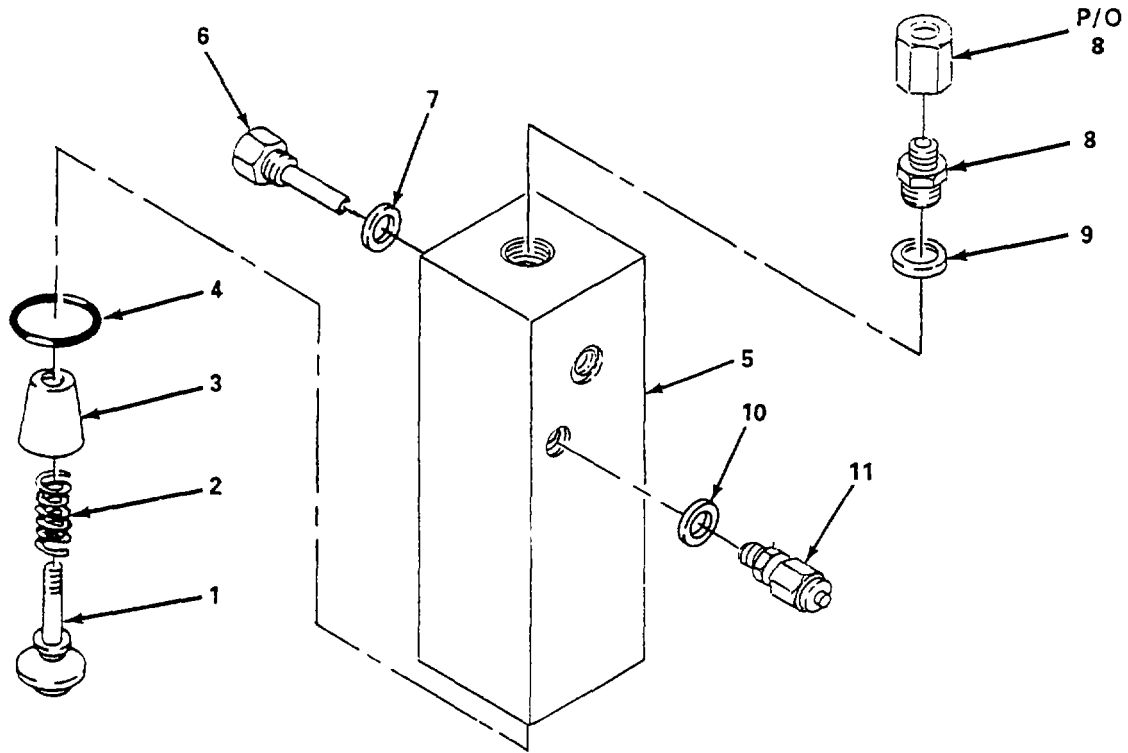

Figure 5-25. Interfilter 2nd and 3rd Stage Housing, Repair.
- (5) Apply petroleum jelly to preformed packing (9).
- (6) Install preformed packing (9) and housing (3) and secure with four screws (7).
- (7) Install safety valve (5) and tighten fitting nut (4).
- (8) Install safety valve (2) and tighten fitting nut (1).
b. Repair. (figure 5-25)**WARNING**